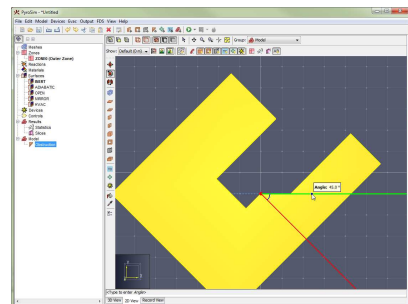

Figure 99. Define angle vector
5. Single-click a third point to define the **angle vector** from the first point to the third point (Figure 99).